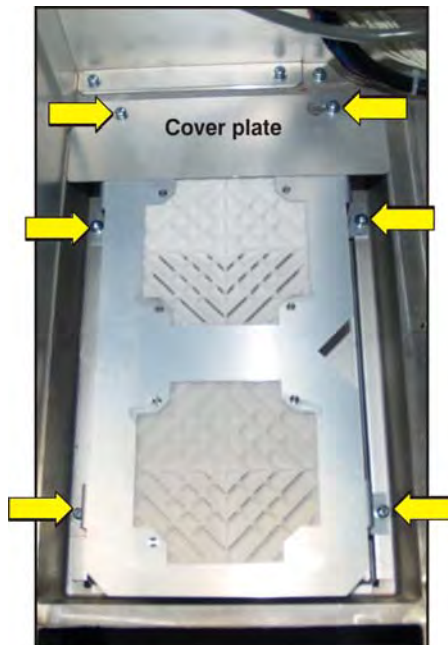

Figure 5-18 Cardcage Exhaust Fans
7. Using a 3mm hex driver, remove the two screws securing the fan compartment cover plate to the base (Figure 5-18).
8. Remove the four screws (3mm) securing the bottom cover/fan assemblies to the base (**Figure 5-18**).